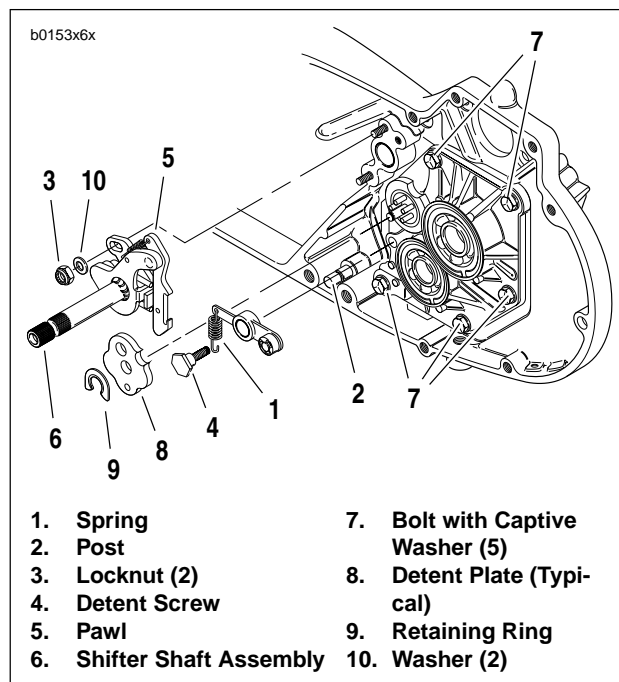
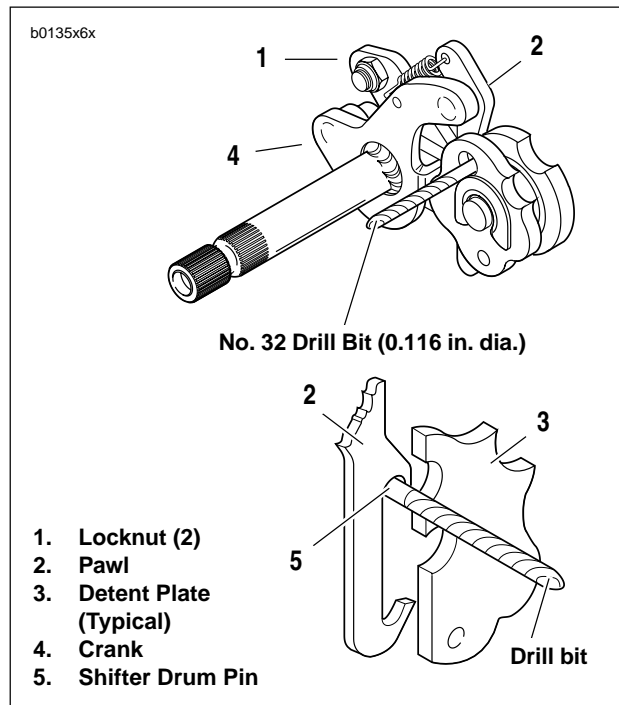

Figure 6-58. Installing Access Door
Figure 6-59. Shifter Shaft Assembly Alignment
2. See Figure 6-58. Install access door.
- a. Apply a few drops of LOCTITE THREADLOCKER 243 (blue) to the five access door mounting bolts with captive washers (7).
- b. Insert the bolts with captive washers (7) through access door into tapped holes in right transmission case.
3. Lift pawl (5) over drum pins and place shifter shaft assembly (6) on studs at transmission case. Loosely install a washer (10) and locknut (3) on each stud.
4. Attach loop of spring (1) over and into groove in post (2).
- a. Place detent plate (8) over drum pins.
- c. Install **new** retaining ring (9) using SHIFT DRUM RETAINING RING INSTALLER (Part No. HD-39151).
6. See Figure 6-59. Align shifter shaft.
- b. Place a No. 32 drill bit (0.116 in. dia.) through hole in detent plate (3), and between pawl (2) and drive pin at end of shifter drum shaft.
- c. Push down top of crank (4) to remove all clearance between pawl and drill bit; this will correctly align pawl to shift drum pins (do not push down with too great a force, as this might cause the shifter drum to rotate).
- d. With bit in place, tighten shifter shaft assembly bottom locknut (1) first to 90-110 **in-lbs** (10-12 Nm). Then, tighten shifter shaft assembly top locknut (1) to the same torque.